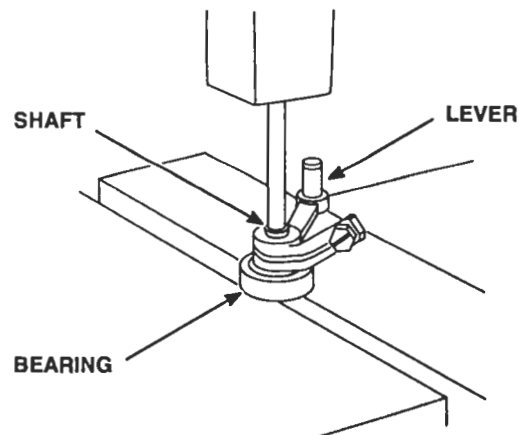

Figure 8. Removing Operating Shaft from Operating Lever
- h. Support the operating shaft and lever on the bed of the press as shown in Figure 8. Use a brass rod and press the shaft from the operating lever and bearing.